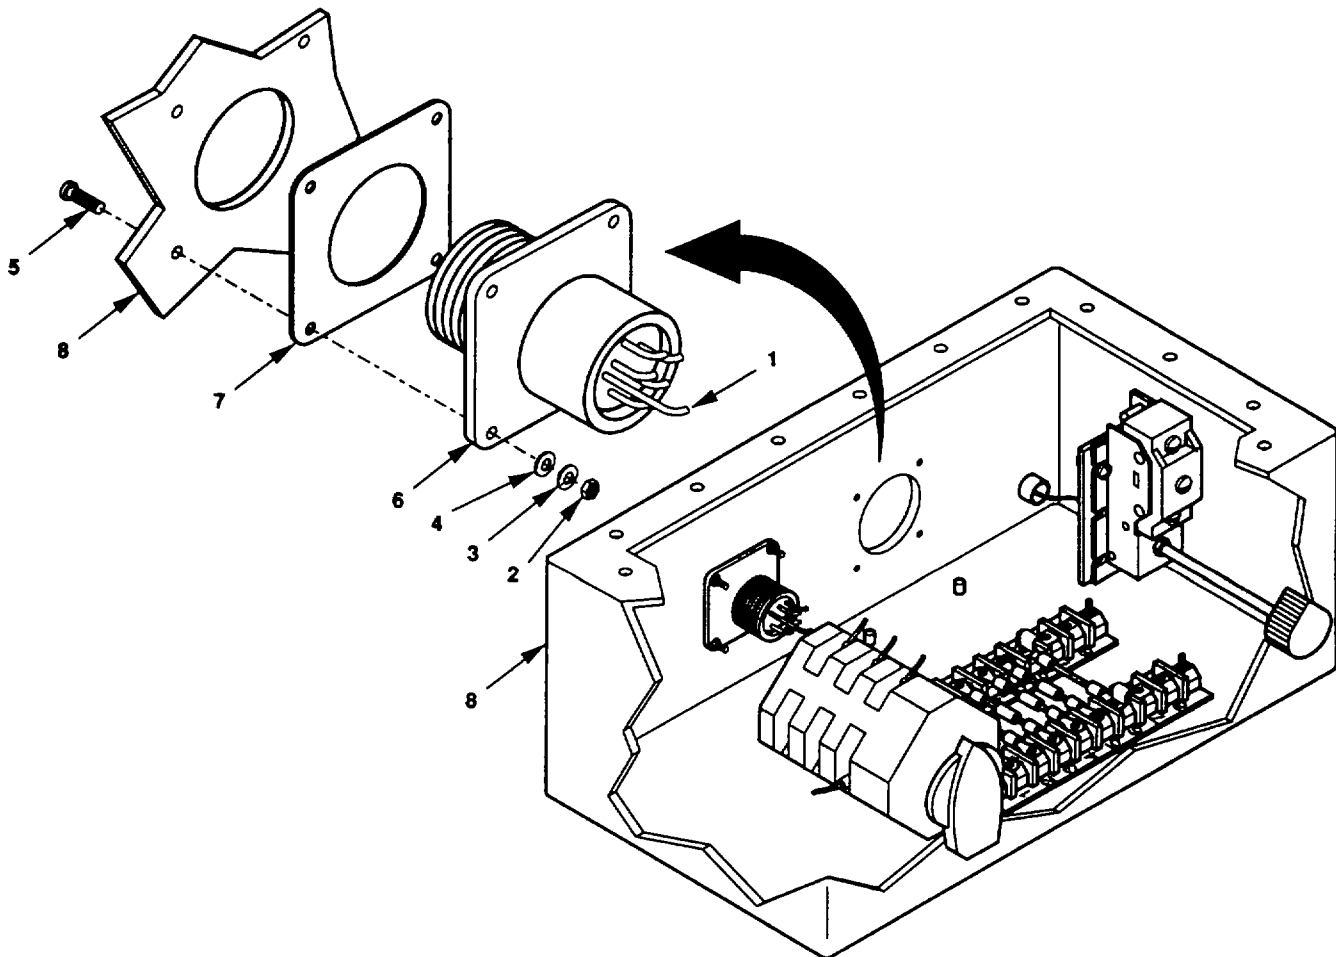

Figure 4-18. Control Module Assembly Wiring Harness Maintenance.
- (1) Refer to Appendix H, Figure H-1, Tables H-1 and H-2, and tag and disconnect all single wire terminations for wiring harness A105J2 (Figure 4-18, 1).
- (2) Remove four nuts (2), lock washers (3), flat washers (4), screws (5), connector (6) of wiring harness A105J2 (1), and gasket (7). Discard lock washers (3) and gasket (7).